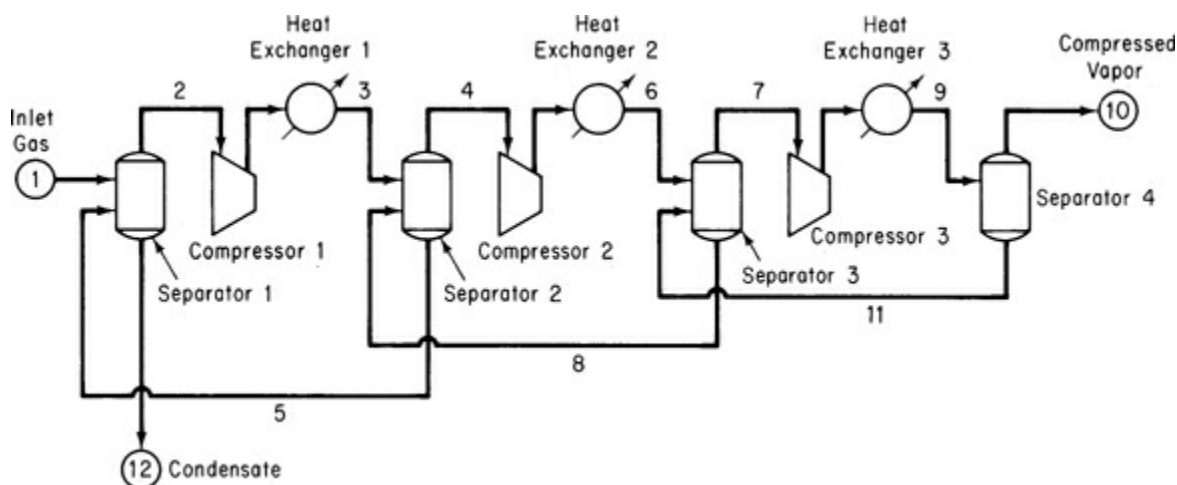

Figure P14.14
- 14.14** A mixture of three petroleum fractions containing lightweight hydrocarbons is to be purified and recycled back to a process. Each of the fractions is denoted by its normal boiling point: BP135, BP260, and BP500. The gases separated from this feed are to be compressed as shown in Figure P14.14. The inlet feed stream (1) is at 45°C and 450 kPa and has the composition shown. The exit gas (10) is compressed to 6200 kPa by a three-stage compressor process with intercooling of the vapor streams to 60°C by passing through a heat exchanger. The exit pressure for Compressor 1 is 1100 kPa and 2600 kPa for Compressor 2. The efficiencies for Compressors 1, 2, and 3, with reference to an adiabatic compression, are 78%, 75%, and 72%, respectively. Any liquid fraction drawn off from a separator is recycled to the previous stage. Estimate the heat duty (in kilojoules per hour) of the heat exchangers and the various stream compositions (in kilogram moles per hour) for the system. Note that the separators may be considered as adiabatic flash tanks in which the pressure decrease is zero. This problem has been formulated from *Application Briefs of Process*, the user manual for the computer